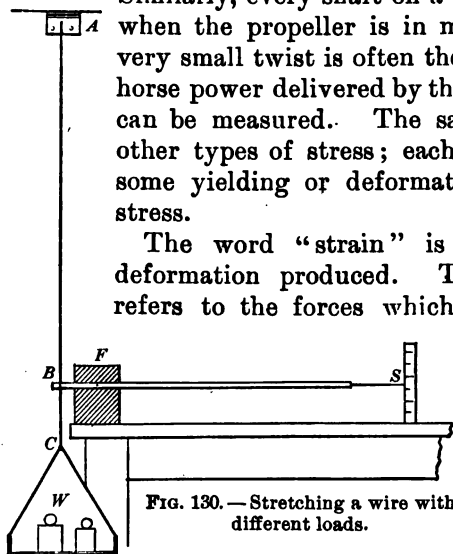

FIG. 130.—Stretching a wire with different loads.
I. *Tension.* Let us fasten one end of a piece of steel or spring-brass wire in a clamp near the ceiling, and attach a pan for weights to the lower end of the wire (Fig. 130). Since the stretch will be small, it is necessary to use a lever or some other device to magnify it. Having placed just enough weight in the pan to straighten the wire, we add weights one at a time and read the corresponding positions of the pointer. Each time we must remove the added weights to see if the pointer comes back to its original position. When it fails to do this, we will stop the experiment and disregard, for the moment, the last reading of the pointer. If we then compute from each deflection of the pointer the actual stretch or elongation of the wire, and divide each stretch by the force causing it, we will find that all the quotients are approximately the same. That is, the stretch is proportional to the load.